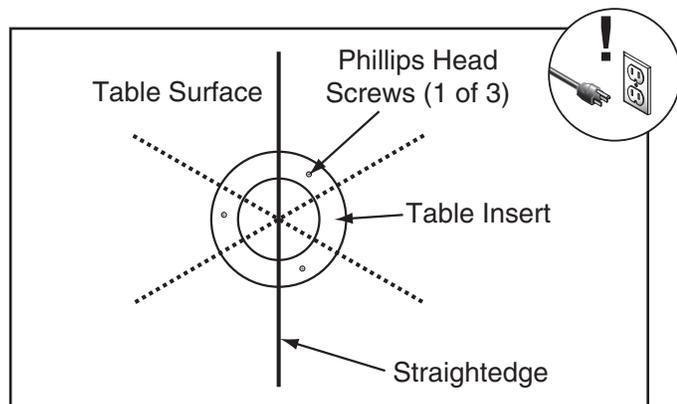

Figure 68. Straightedge pattern.
3. Lay straightedge across semi-permanent insert and table surface in pattern shown in **Figure 68**.
4. Adjust flat head screws (see **Figure 69**) so that ends of straightedge lay flat on table surface at all positions of pattern in **Figure 68**.